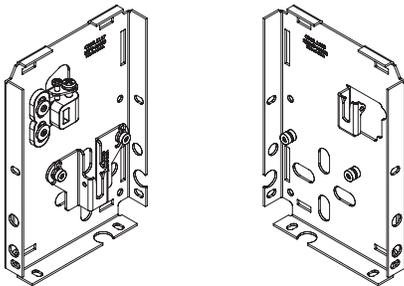

Figure 2
- ② Mark wall, jamb or ceiling for placement of mounting endcaps.
- ③ Drill small starter hole (if necessary) in mounting surface.
- ④ Mount endcaps using appropriate fasteners for surface (see Fig. 2 for types). **The installer is responsible for selecting mounting hardware appropriate for site conditions.**